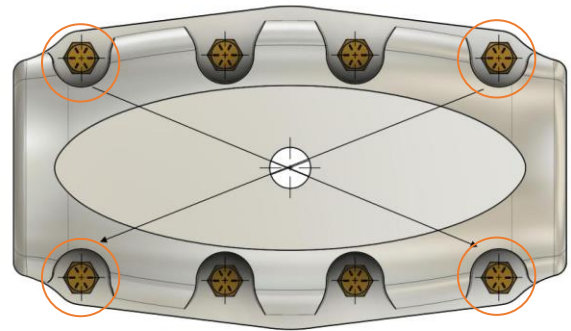

Figure 2
12. Insert 4 "hub to hub" bolts (REF-10), (circled in Figure 2), using supplied Nord-lock washer under the head of the bolt. Hand tighten with a socket wrench in a star pattern diagonally to ensure an even gap on both sides of the hub.
14. Using calibrated torque wrench torque "hub to hub" (REF-10) shown in Figure 2 using cross pattern, incrementally using values in table below: